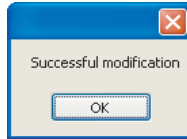

Fig.4-24
- b、 Modify wire controller: Select an existing wire controller (by click the drop down list of the KJR Address at the left Chart or by click the drop down list of the KJR Address at the right), and re-fill the wire controller name and click “Save” to finish the wire controller modification(see Fig. 4-24). KJR Name could not empty or pure blank character string (pure blank charter string is composed by space and tab)